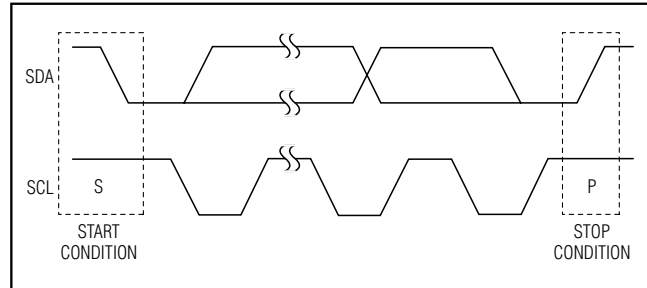
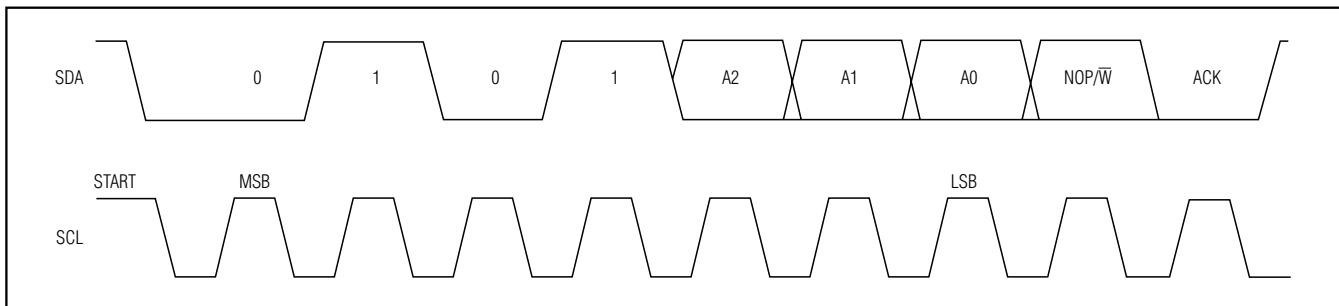

Figure 3. Start and Stop Conditions
Figure 4. Slave Address
Each transmission consists of a START (S) condition (Figure 3) sent by a master, followed by the MAX5477/MAX5478/MAX5479 7-bit slave address plus the NOP/ \bar{W} bit (Figure 4), 1 command byte and 1 data byte, and finally a STOP (P) condition (Figure 3).
communicating with the slave. The bus is then free for another transmission (Figure 3).
The MAX5477/MAX5478/MAX5479 have a 7-bit-long slave address (Figure 4). The 8th bit following the 7-bit slave address is the NOP/ \bar{W} bit. Set the NOP/ \bar{W} bit low for a write command and high for a no-operation command.